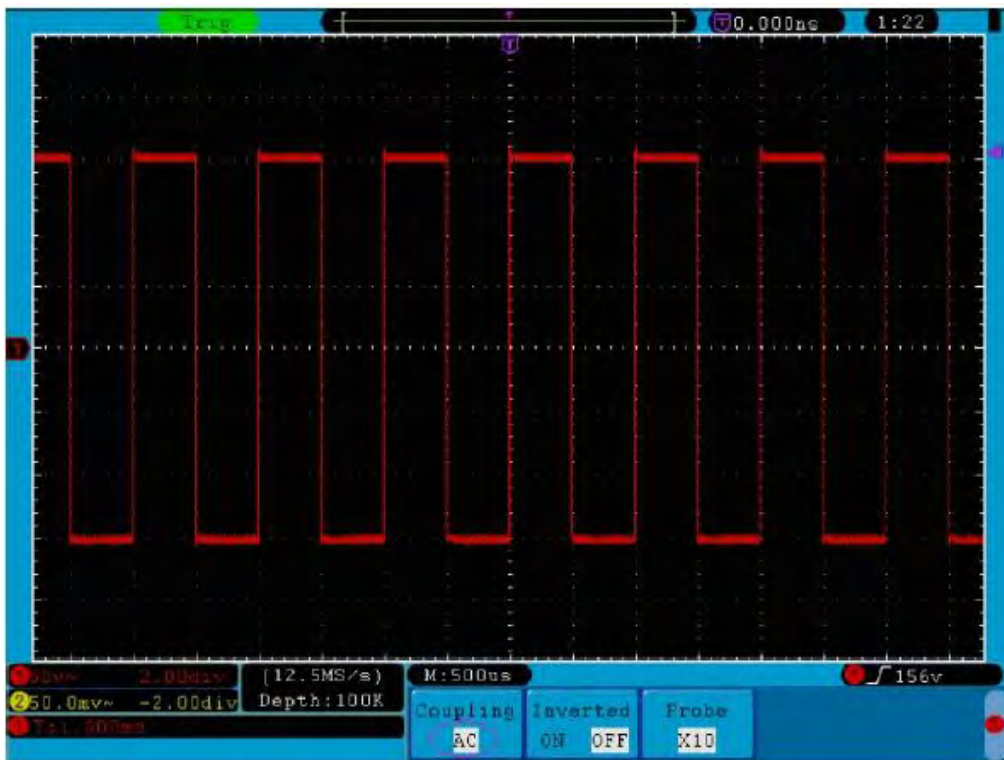

Fig. 14 AC Coupling Oscilloscope
- * Then, press **F2** button to select the Coupling item as “**AC**”. By setting the channel coupling as AC mode, the direct current component of the signal will be blocked. The waveforms are shown as **Fig. 14**.